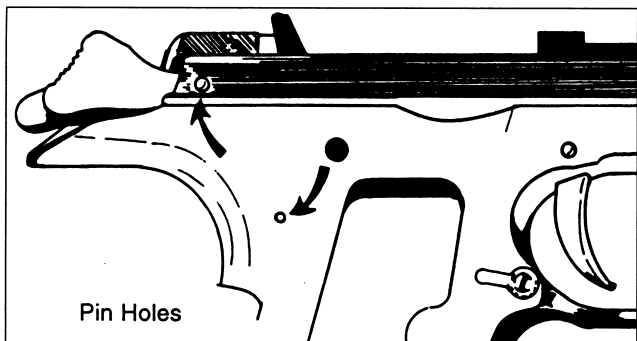

fig. 22
3. Remove the hammer pin and the sear pin with the appropriate punch (fig. 22).